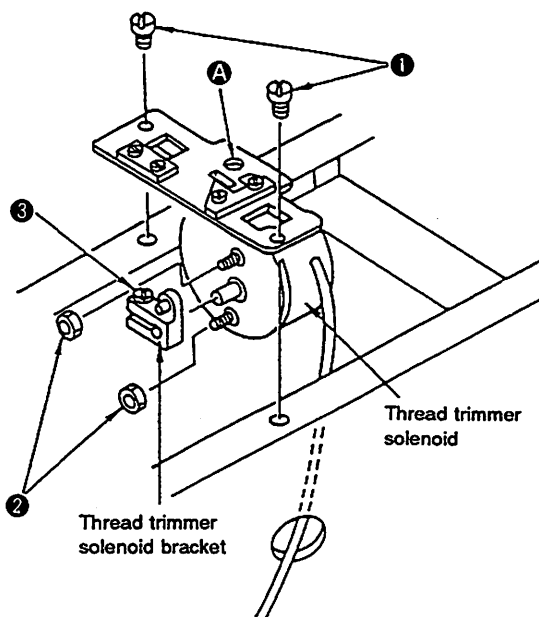
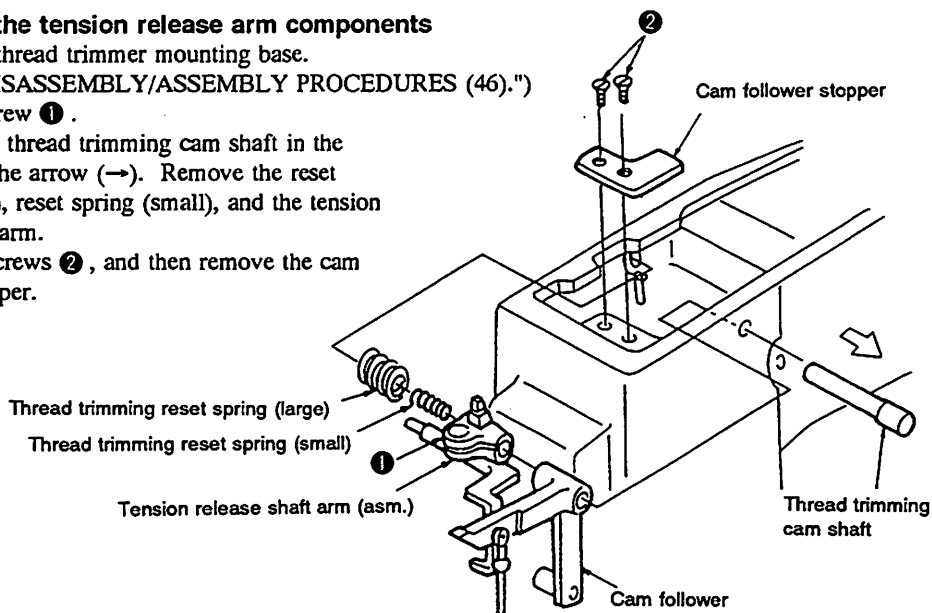

Fig. 5-46-1
Fig. 5-47-1
<ul style="list-style-type: none"> ○ Note that the thread trimmer solenoid locknuts are fixed using the LOCK-TITE paint. ○ For removing the thread trimmer solenoid terminal from the connector, see the solenoid connection diagram. <div data-bbox="321 1168 856 1524"> <p>The diagram shows a cross-sectional view of the thread trimmer solenoid assembly. It includes a 'Thread trimmer mounting base' at the top, a 'Thread trimmer solenoid' in the middle, and a 'Thread trimmer solenoid bracket' at the bottom. Three adjustment points are marked: 'A' is a screw on the mounting base, 'B' is a screw on the solenoid bracket, and 'C' is a screw on the solenoid. A dimension line indicates a clearance of '0mm' between the solenoid and the bracket.</p> </div> <p>Fig. 5-46-2</p>	<ul style="list-style-type: none"> ○ Fix the thread trimmer solenoid locknuts by applying LOCK-TITE No. 242 after defatting them. ○ To fix the thread trimmer solenoid bracket, press the tension release shaft arm against the cam follower after fixing the thread trimmer mounting base (Fig. 5-47-1). Then, insert a screwdriver through A of the thread trimmer mounting base, and tighten setscrew C (Fig. 5-46-1). At this time, adjust the clearance between the trimmer solenoid bracket and the thread trimmer solenoid B to 0 mm. (Fig. 5-46-2) ○ For the adjustment of the thread trimmer mounting base, refer to "STANDARD ADJUSTMENT (16)."